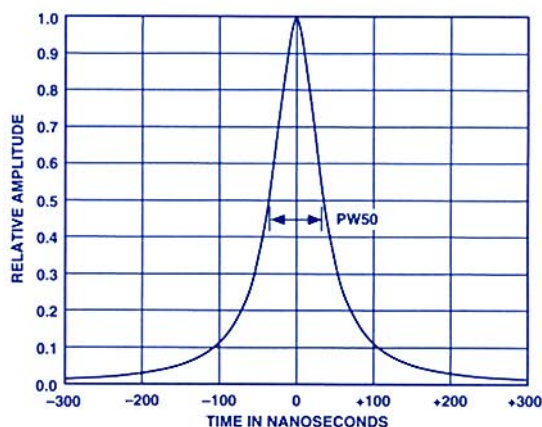

Figure 1. Lorentzian pulse shape, PW50 = 70 ns.
**Pulse identification problem:** Magnetic transitions on the disk are transformed into voltage pulses with alternating polarity at the output of the read head sensor. An isolated transition in the read channel (which corresponds to a step change in the magnetization) can be approximated by the Lorentzian pulse (Figure 1), given by: